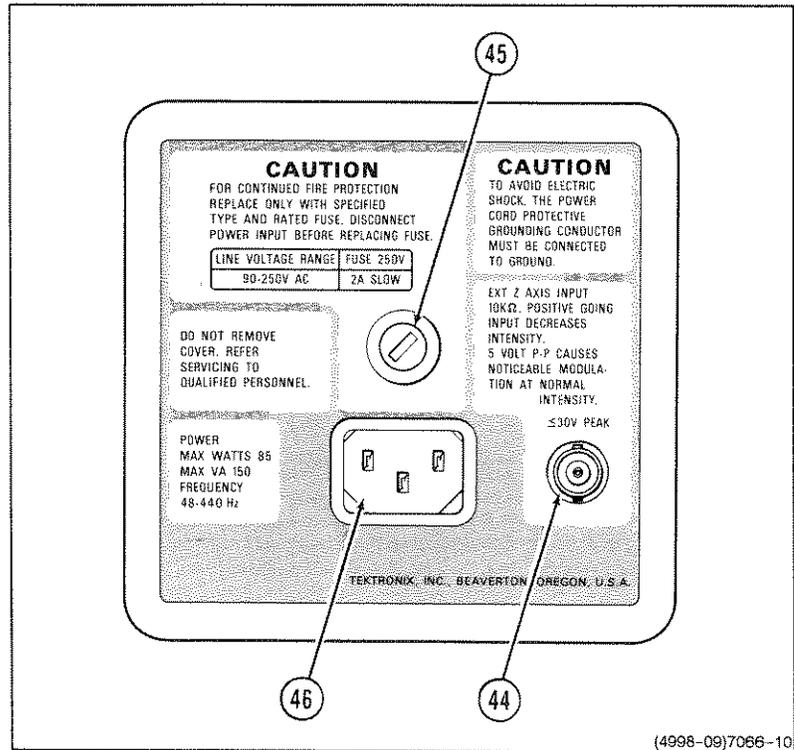

Figure 3-7. Rear panel.
Refer to Figure 3-7 for location of items 44 through 46.
- ④ **EXT Z-AXIS Input Connector**— Allows external signals to be applied to the Z-Axis circuit to control the intensity of NON-STORE waveform displays. Applied signals do not affect the display waveshape. External signals with fast rise and fall times provide the best defined intensity modulation. Noticeable intensity modulation is produced at normal viewing intensity levels by a 5 V p-p signal. The Z-Axis signals must be time-related to the trigger signal to obtain a stable intensity-modulation pattern on the displayed waveform.